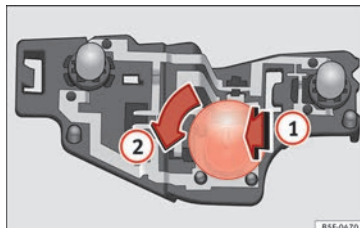

Fig. 114 Position of the bulbs in the bulb holder
- Lightly press the defective bulb into the bulb holder **1**, then turn it to the left **2** and remove it »» **Fig. 114**.